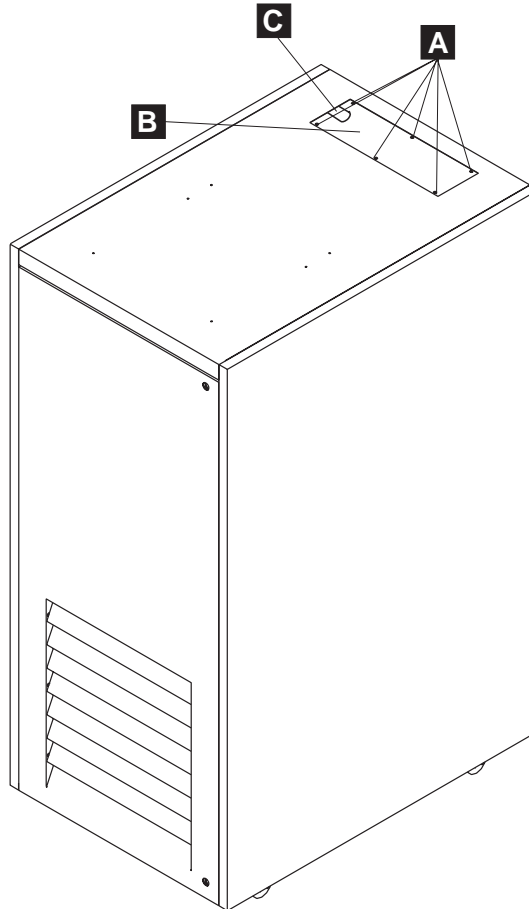

Figure 1-28. Removing of the Top Cover
1. ____ On the top of the 29U rack, loosen and remove the six screws **A** (see Figure 1-28).
5. ____ Reinstall the top cover **B** (see Figure 1-28 on page 1-23). Be sure that the signal and power display cables are correctly routed in the top aperture **C**. Secure the top cover with the screws **A** that you previously removed in step 1.